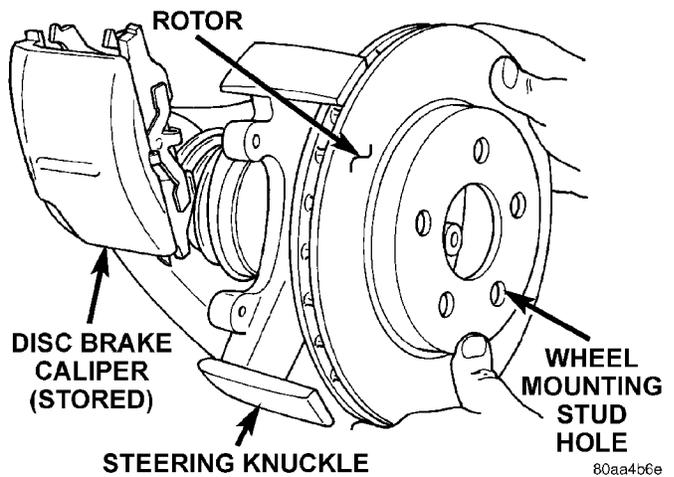

Fig. 55 Remove/Install Rotor
- (6) Remove the rotor from the front hub (Fig. 55).
(2) Tighten the wheel lug nut. This will pull the wheel stud into the flange of the hub/bearing. When the head of the stud is fully seated against the bearing flange, remove the lug nut and washers from the stud.
(3) Install rotor on front hub (Fig. 55).